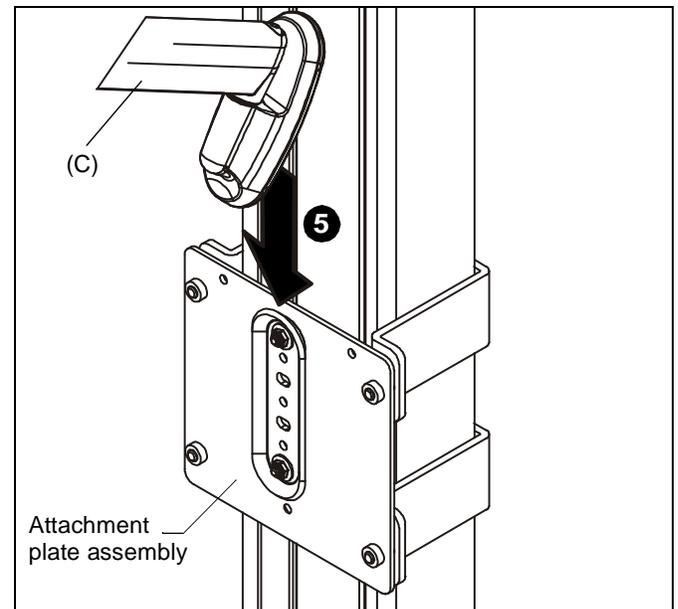

Figure 3
5. Insert top of height-adjust assembly (C) over lip on top of attachment plate assembly. (See Figure 3)